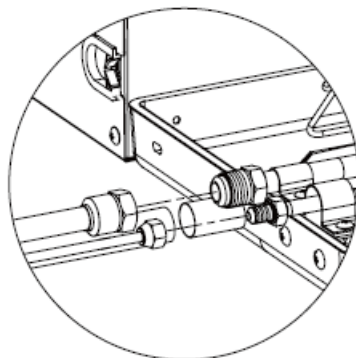

Fig. 4.4
- (1) Remove pipe cover and pipe plug.
(2) Direct the flared part of copper pipe to the center of screwed joint. Twist on the flared nut tightly by hand, as in Fig. 4.4. (Make sure indoor pipe is correctly connected. Improper location of the center will prevent flared nut from being securely twisted. Thread of nut will get damaged if the flared nut is twisted forcibly.)